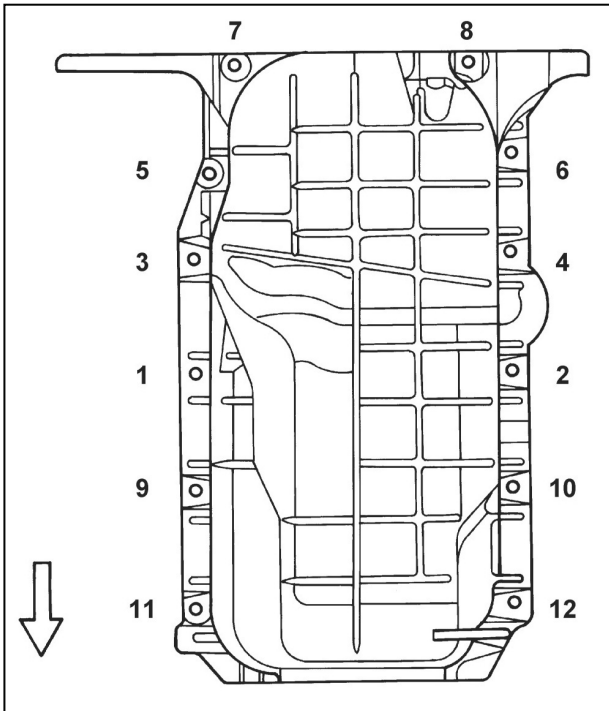

Figure 12-84 Oil Pan Tightening Sequence
- Bolts to 25 N·m (18 lb-ft.) in the sequence shown (figure 12-84).